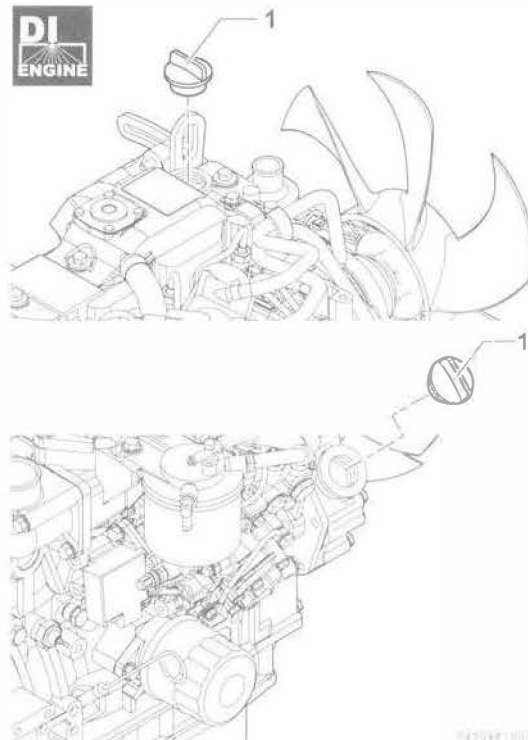

Figure 19
4. Remove one of the oil filler caps (1, Figure 19) to vent the engine crankcase and allow the engine oil to drain more easily.